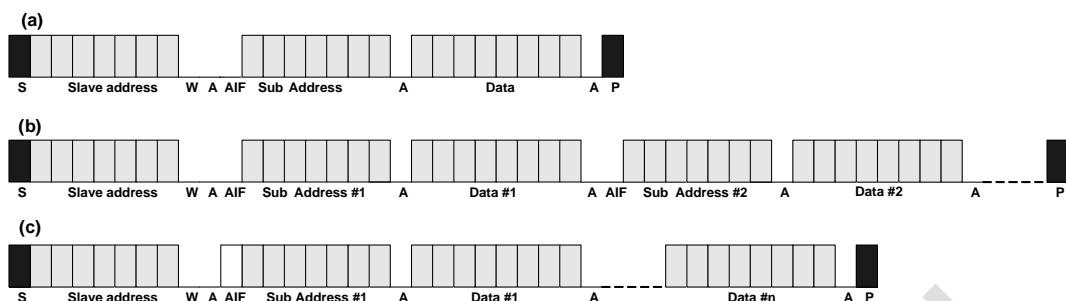
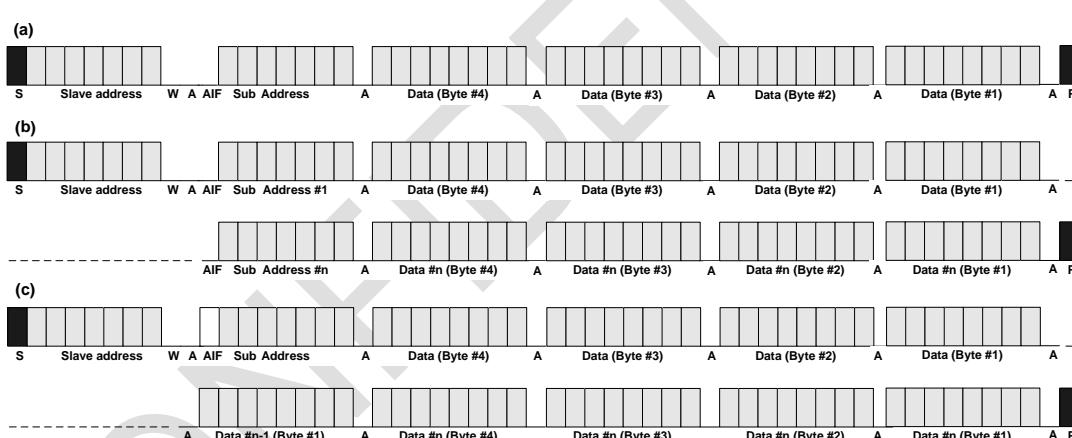

Figure 6. Single Byte Write Mode Sequence
Figure 7. Quad Byte Write Mode Sequence
When last 8th bit of the 1st byte is set to low state, the writing operation of I2C bus begins. The NTP8818 supports 3 kind of writing operations which presented on **Figure 6**.
The type presented on **Figure 6-(a)** is single byte write operation. "Sub address" on 2nd byte means the internal register address of the NTP8818. The "Data" on 3rd byte will be written into the internal register address on "Sub address". If stop condition is not generated, writing "data" on specific "sub address" can be repeated like **Figure 6-(b)**. "Data #n" will be written on "sub address #n".
The type presented on **Figure 6-(c)** is single byte write operation under address auto increment mode. The AIF on 1st bit of 2nd byte is the address auto increment flag. If SDA is set to high state on AIF slots, the NTP8818 write data continuously with register addresses
**Figure 7-(a)**, **Figure 7-(b)**, and **Figure 7-(c)** represent 4 byte writing operations. Coefficient Mode Register address 0x00~0x5B are used to configure Bi-Quad filter coefficients, those are BQ, QMF\_BQ, Loudness filter gain, attack gain, power meter gain and BQ/DRC check. The data size of these coefficients and gains is 4 byte for each. The difference between 4byte writing operation and single byte writing operation is only the size of transferring data. So, after sending “Sub address”, 4 sequential bytes must be transferred from the MSB(most significant byte) to the LSB(least significant byte) sequence.
The type presented on **Figure 7-(c)** is quad byte write operation under address auto increment mode, AIF function. Please compare the data transfer size between **Figure 6** and **Figure 7**.